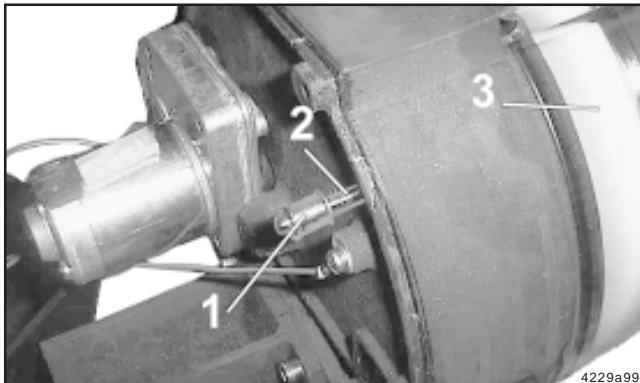

Fig. 24 - Parts of low level control
- The follower plate (3) (Fig. 24) of the reservoir moves the pin (2) with the magnet (3) ahead of the sensor on the printed circuit board and initiates the low level signal.